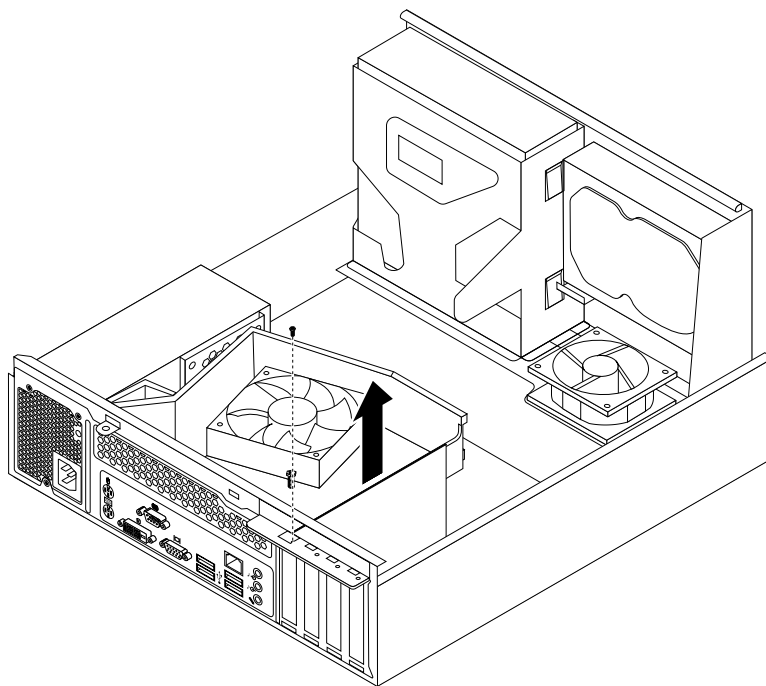

Figure 11. Removing the PCI card
- If you are replacing a PCI card, remove the screw that secures the old PCI card and release the old PCI card from the PCI card slot. Then, carefully remove the old PCI card from the chassis, as shown in Figure 11 “Removing the PCI card” on page 19.